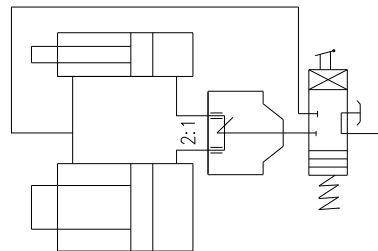

Figure 6, Differential cylinder synchronization example
6. When the proportional synchronization is required, refer to figure 6, and you can also choose differential motion system if the cylinders are the same.